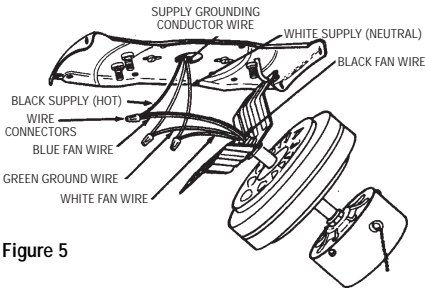

Figure 5
2. Connect the fan motor white wire to the supply white (neutral) wire using a supplied wire connector (Figure 5).
3. Connect the fan motor black wire and blue wire to the supply black (hot) wire using a supplied wire connector (Figure 5). Your fan is now wired to be turned on and off from the fan switch. After connections have been made, turn leads upward and carefully push leads into the outlet box, with the white and green leads on one side of the outlet box and the black and blue leads on the other side of the outlet box.